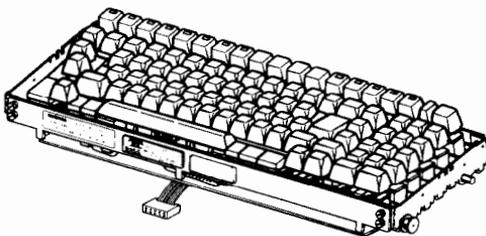

Fig. 1--43K202/GAB Operator Console
1.01 This part provides disassembly/reassembly procedures for the 43 Buffered Operator Console (opcon) (Fig. 1).